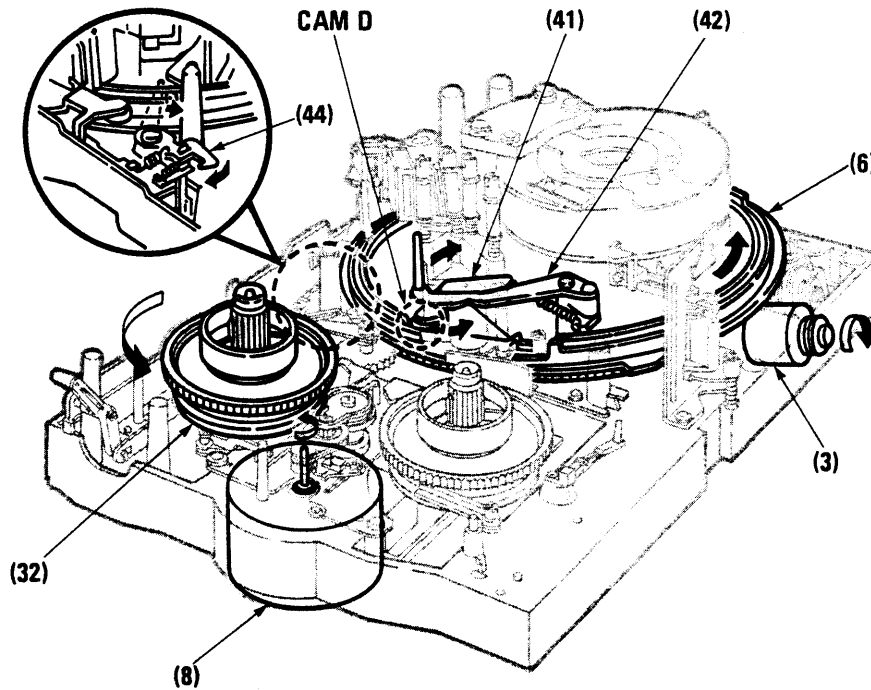

Fig. 3-3-21 REW mode
7. REW MODE (See Figs. 3-3-21, 3-3-22.)